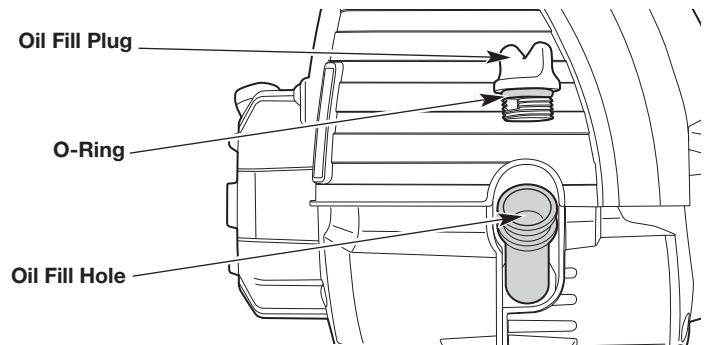

Fig. 18
3. Clean the area around the oil fill plug (Fig. 18) to prevent debris from entering the oil fill hole.
**NOTE:** Make sure the O-ring is in place on the oil fill plug (Fig. 18).
1. Clean the area around the oil fill plug (Fig. 18) to prevent debris from entering the oil fill hole.